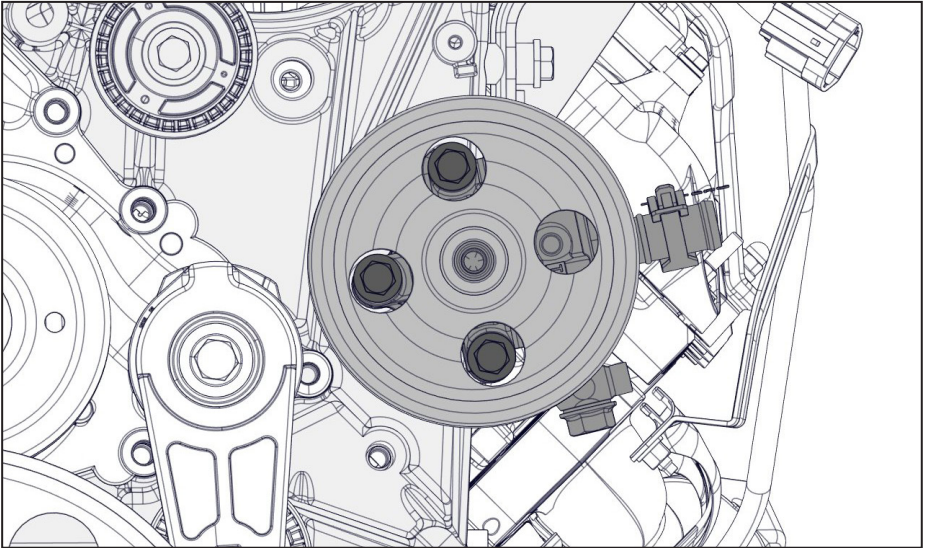

Figure 13 — Shift power steering pump out of the way
- ☐ In order to provide clearance to install the main bracket the power steering pump and reservoir must be shifted out of the way. Leaving the hoses attached, remove the power steering pump and reservoir and secure this assembly out of the way. The bolts can be accessed via the holes in the pulley (Figure 13).